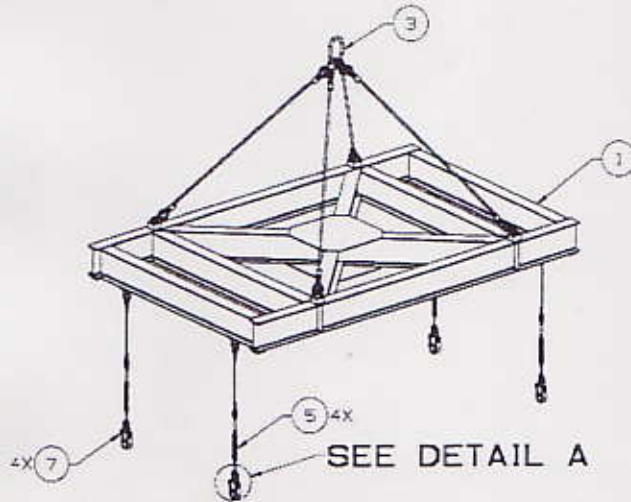
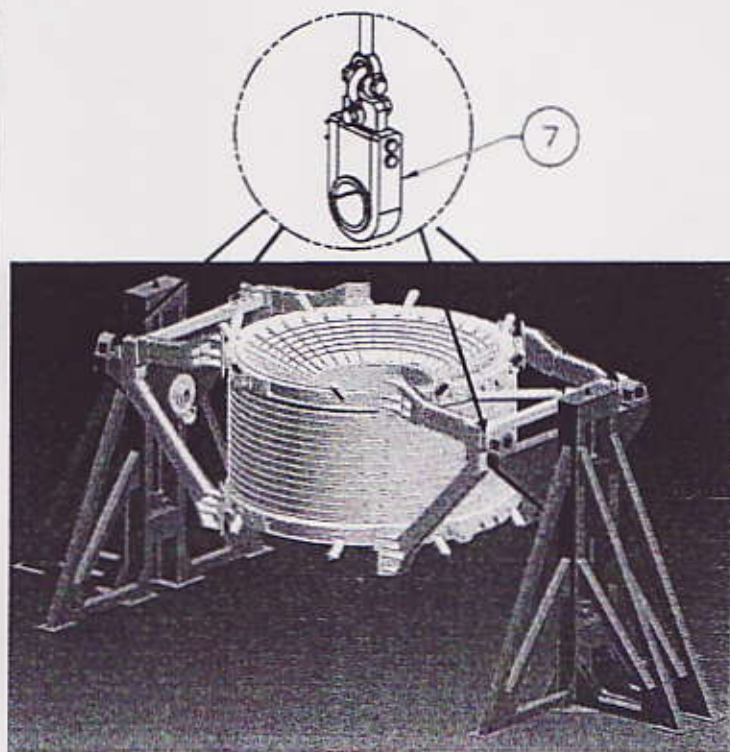

Figure 3. PLF and downslings with U-hooks.
Figure 4. U-Hooks at USS Sill Trunnions at the side of RAS Trunnion brackets
5. Attach the crane to the upper sling, item 3, of the Primary Lifting Fixture (PLF), SEG38117112-305, as seen in Figure 3.
7. Attach the U-Hook assembly, item 7 in Figure 3, to the Sill Trunnion on the USS, for all four Sill Trunnions. See Figure 4 for locations. Removal of U-Hook cotter pins and bolt preload may be required to attach to the Trunnions. (See SEG38117120). If required, indicate actual torque: (Ref: Torque fasteners to 258 - 304 in-lbs.)